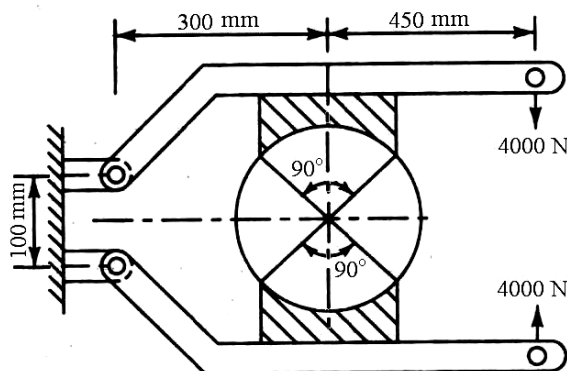

Figure 1
- (b) A double block brake shown in Figure 1, is applied on a drum of diameter 500 mm. The angle of contact is 90° and the coefficient of friction is 0.35. The force applied on end of each lever arm is 4000 N. Determine the brake torque on the drum. **07**